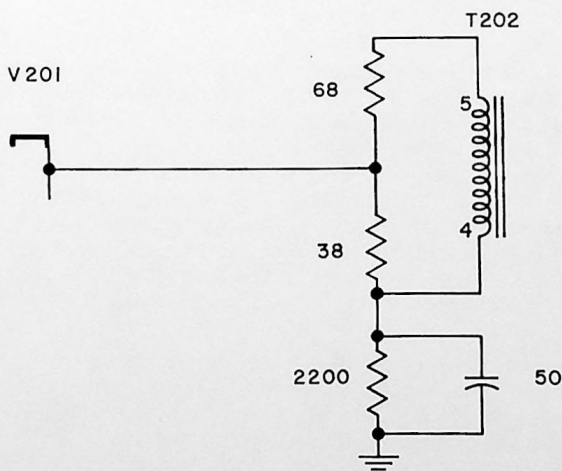

Figure 2-7. 356A-1 Preamplifier, Cue Amplifier Gain Adjustment
2.3.3.2 356A-1 PREAMPLIFIER. The gain of the 356A-1 Preamplifier may be increased by reducing the amount of feedback in the amplifier circuit. As supplied, the 356A-1 has an over-all gain of 40 db and approximately 28 db of feedback. With no feedback, it would have 68 db gain. The feedback may be reduced when used as a cuing amplifier by using a resistance divider connected across the output transformer feedback winding. A typical example is shown in figure 2-7. The gain of the amplifier with this modification is 50.5 db, with distortion of less than 1%. The 356A-1 is rated at +18 dbm output; however, the level may be raised to approximately +23 dbm (200 mw) before clipping occurs.